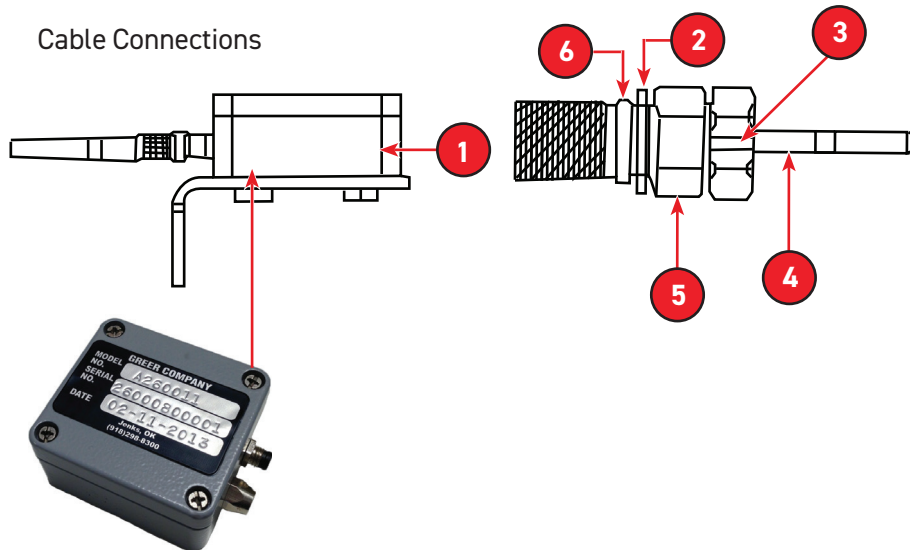

Fig 5 - Conditioning Box & Swing Sensor
4. Manually unthread and disconnect the sensor cable from the conditioning box as shown in Fig. 5.